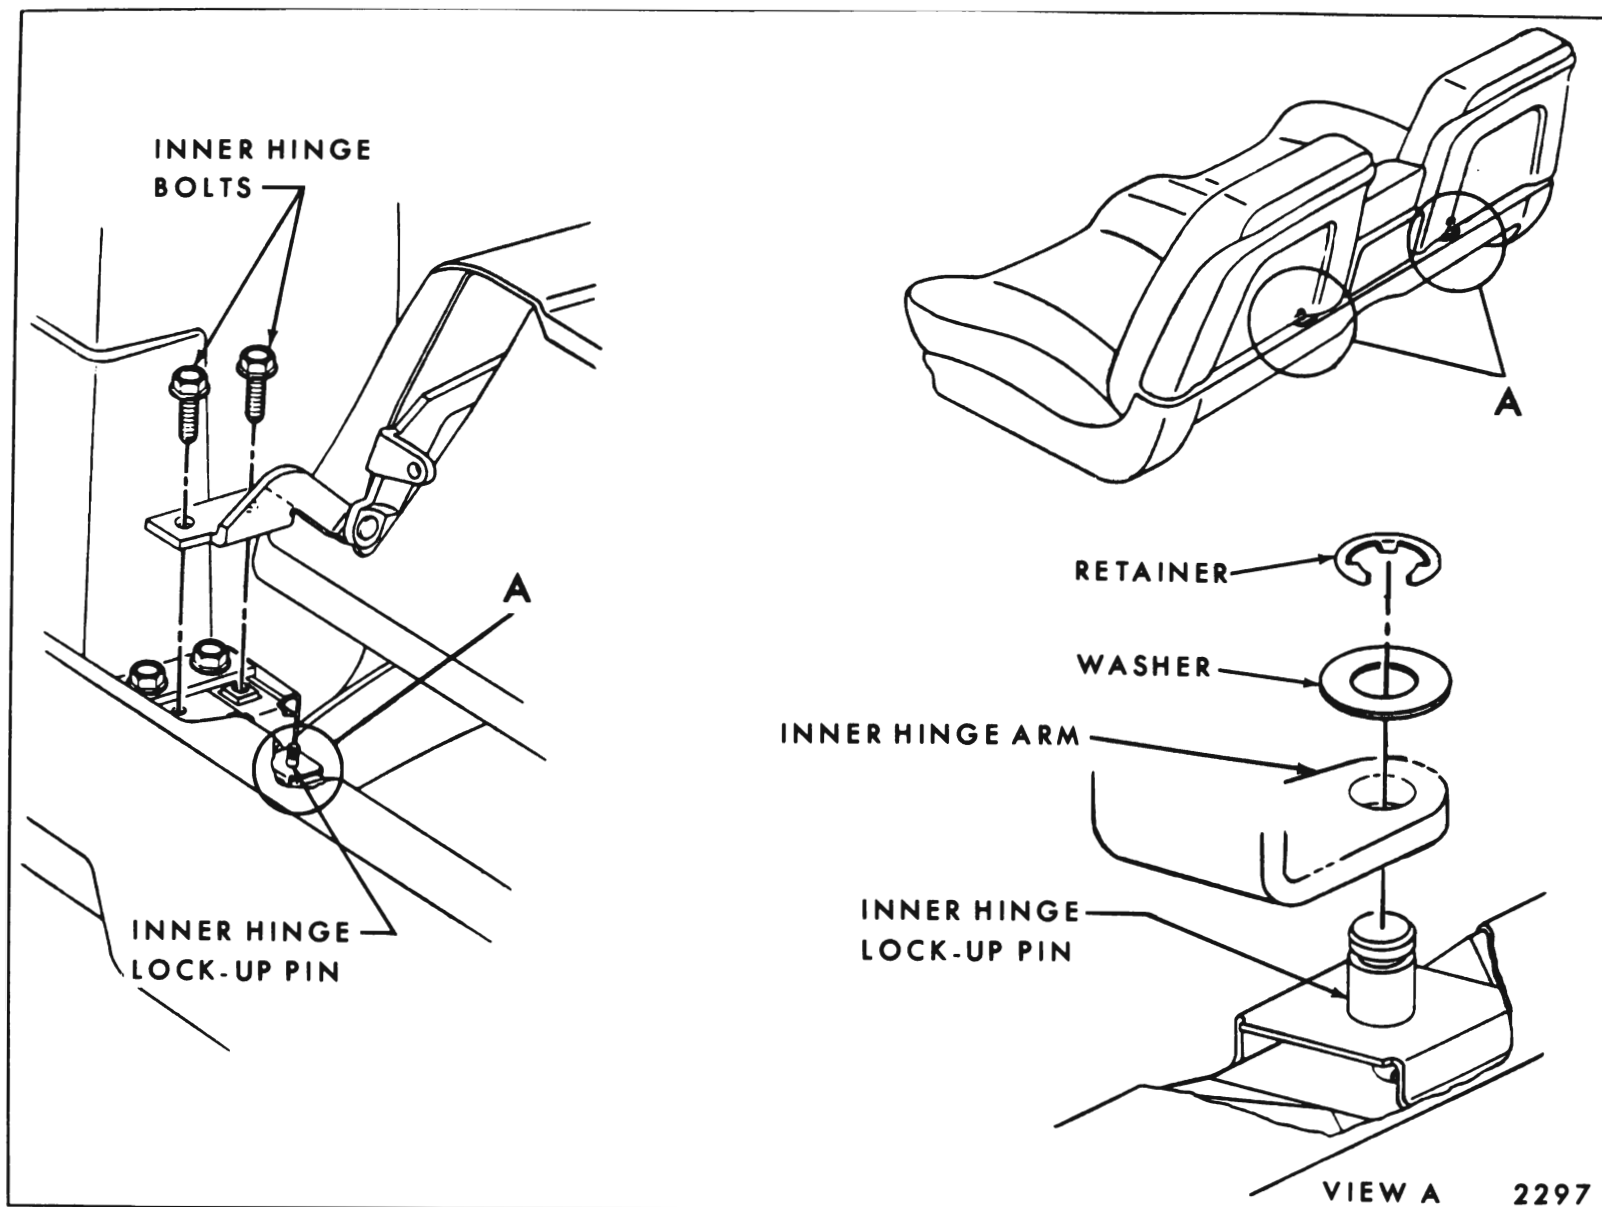

Fig: 10-24—Strato Full Width Seat Back Attachment - Chevrolet 16639 Style
3. Using a suitable hooked end tool between seat back and seat cushion, at location "A", remove retaining ring locking seat back at inner hinge (see View "A", Fig. 10-24).
5. Carefully tilt seat back forward. Remove inner hinge bolt cover plate. Remove inner hinge bolts (Fig. 10-24) and carefully remove seat back from seat assembly.